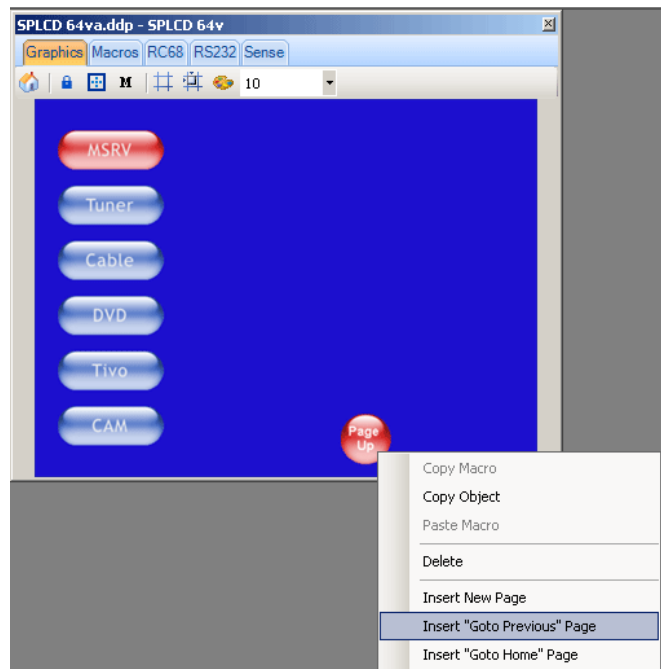

Figure 26 – Go To Previous Page
7. Right-click on the button from **Step 6** and select **Insert Go To Previous Page** from the **pop-up**. (**Figure 26**) While programming in **Universal Dragon**, once configured as a '**Go To**' Button, the button can double clicked to navigate as configured, i.e. **Page Up**.